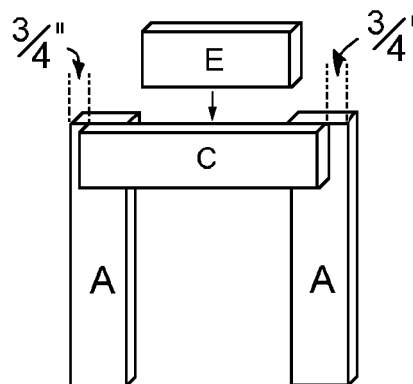

Figure 1
2. The construction of one side is shown in *Figure 1*. Attach two legs (A) to one side connector (C), spacing them as shown. Note that the edges of the side connector are flush with the ends of the legs (A), and there is a 3/4" offset at each end of the side connector (C). Using glue and
3. As shown in *Figure 1*, attach the side spacer (E) between the legs. Apply glue, and use about 3 1-1/4"-long screws, driving them through the side connector (C) into the side spacer (E).